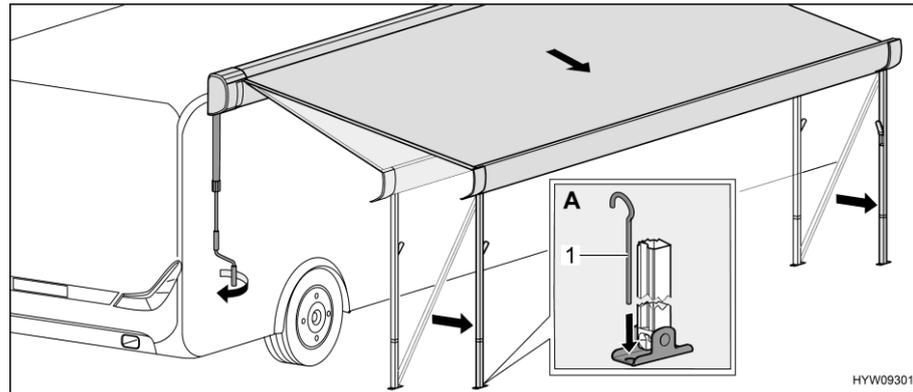

Fig. 45 Bringing awning into end position
- Fix the support legs to the floor with tent pegs (Fig. 45,1) (Fig. 45,A).